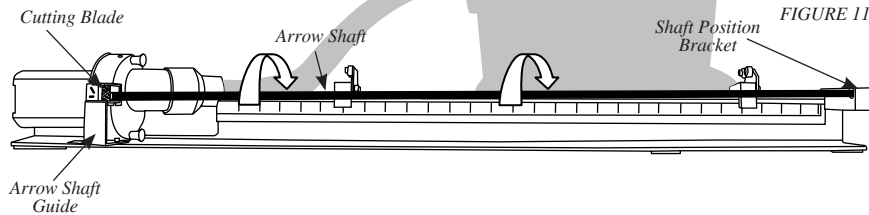

FIGURE 11
14. Gently guide the arrow shaft into the **Cutting Blade**. Rotate the arrow shaft until it is completely cut. *Figure 11*